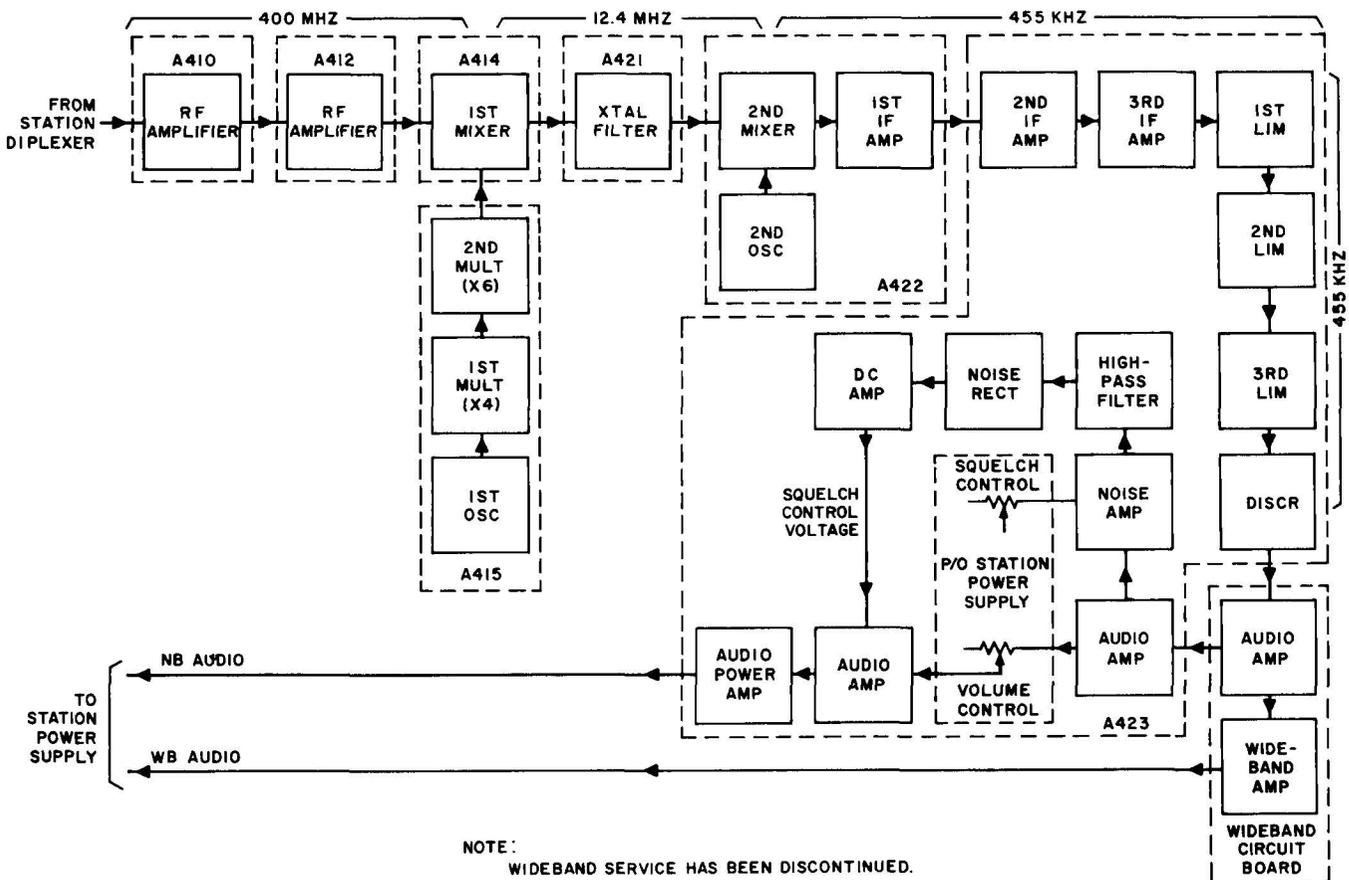

Fig. 5—Receiver—Block Diagram
3.08 The Echo-Fox base station receiver (Fig. 5) is a single-frequency, 30-kHz bandwidth,